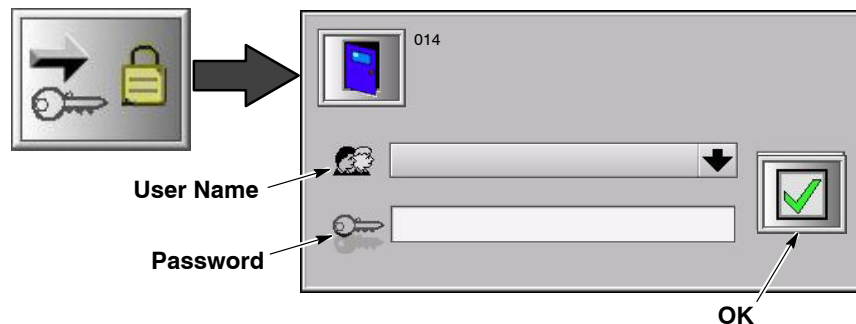

Figure 2-2 Logging In
1. See Figure 2-2. Touch the **Log In** button on the Log In/Out screen to open the Log In screen.